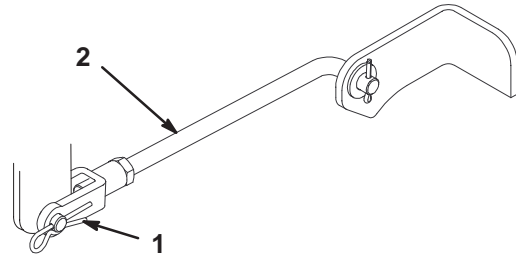

Figure 45
3. Remove the hairpin cotter and clevis pin from the front trunnion yokes (Fig. 45).
6. Attach the front trunnion rods to the tractor with the clevis pins and hairpin cotters (Fig. 45).